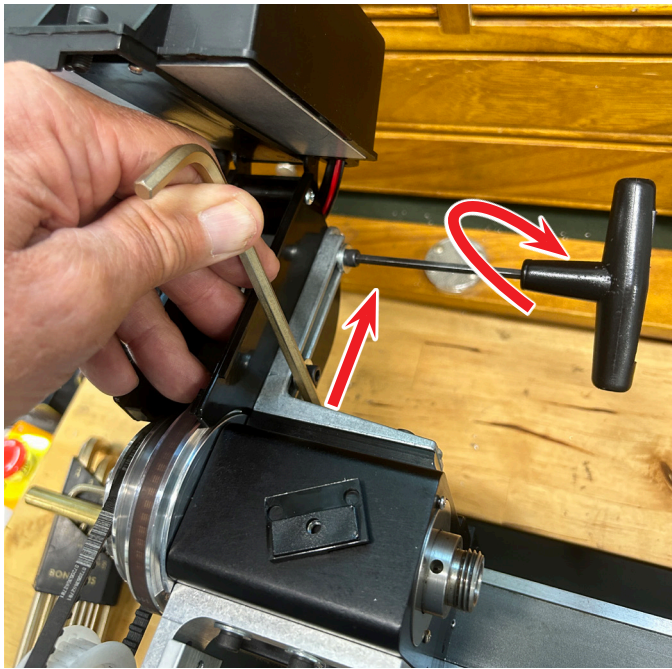

FIGURE 8
- G. While forcing the motor away from the headstock, tighten the two motor bracket adjustment screws (see Figure 8).